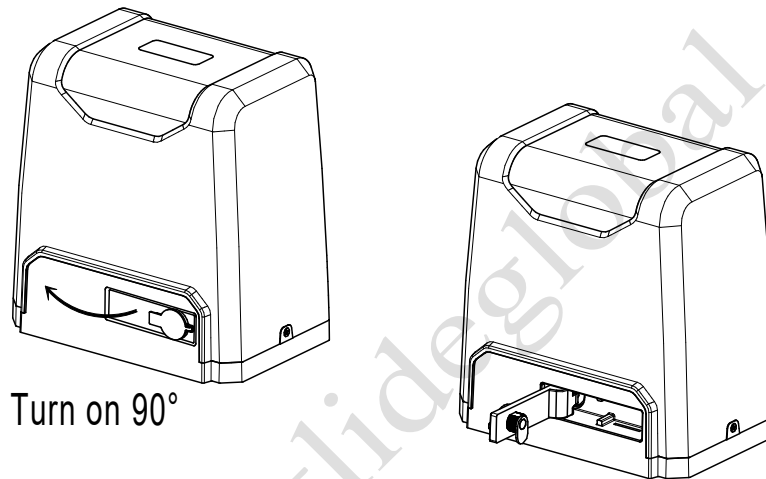

Figure 5
- c) Please unlock the main engine before installation, the unlock method is: take out the key cover, insert the key, and open the manual release bar till it rotates by 90° as shown in Figure 5. Then turn the output gear and the gear can be rotated easily;